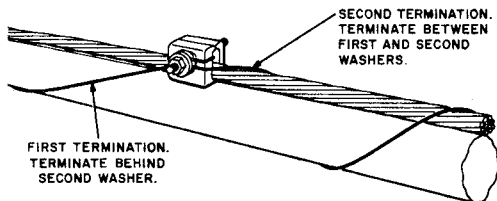

Fig. 13—Cable Lashing Clamp Used to Join Two Lashing wires
6.02 The D Cable Lashing Clamp may be used to join two lashing wires, as shown in Fig. 13. This method should not be used in spans where it will interfere with the lashing of a second cable.